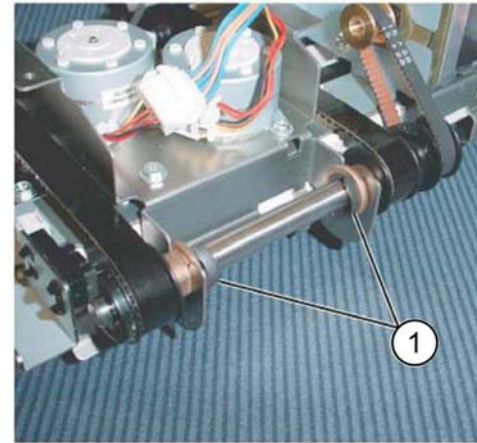

Figure 2 KL-clips
3. Remove the KL-clips (2) from the eject shaft, Figure 2.